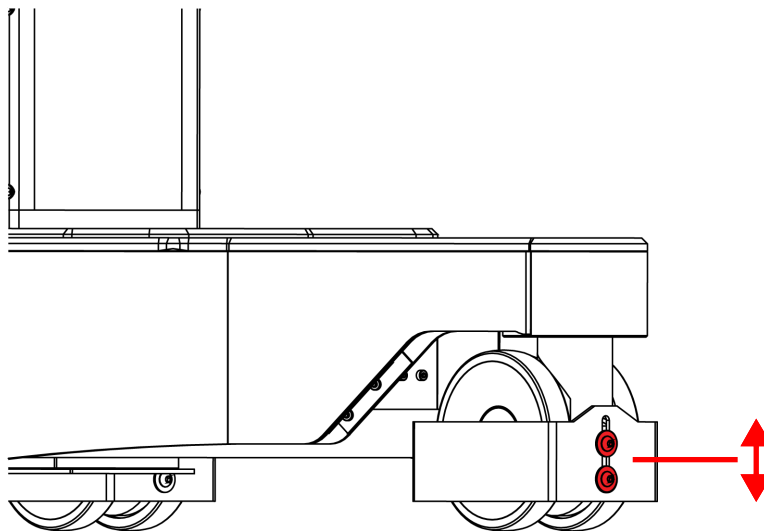

Figure 1 Adjusting the height of the cable guards
1. Use a 3/32” hex key to loosen the screws that fasten cable guards to the wheel unit. Each cable guard has two screws. Loosen the screws just enough to allow the cable guard to move (see **Figure 1**).